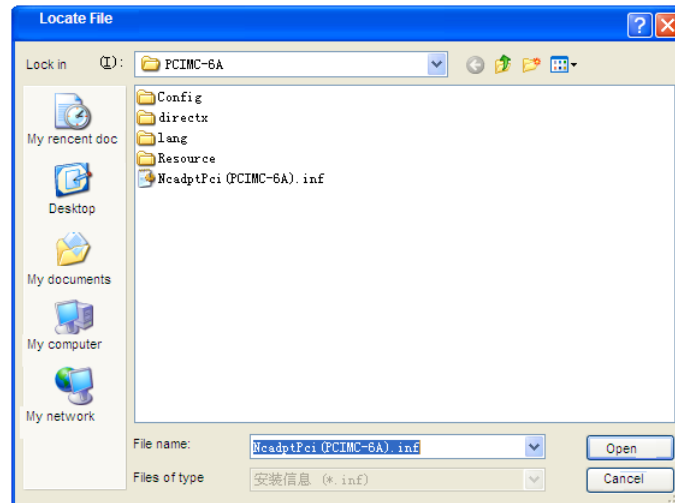

Fig. 2-5 Select the hardware driver
- 5) Click “Browse” to open a dialog box named “Locate File”, as shown in Fig. 2-5, select the target hardware driver in the list. Choose the target file “NcadptPci(PCIMC-6A).inf” under the directory of C:\ProgramFiles\Naiky\PCIMC-6A.